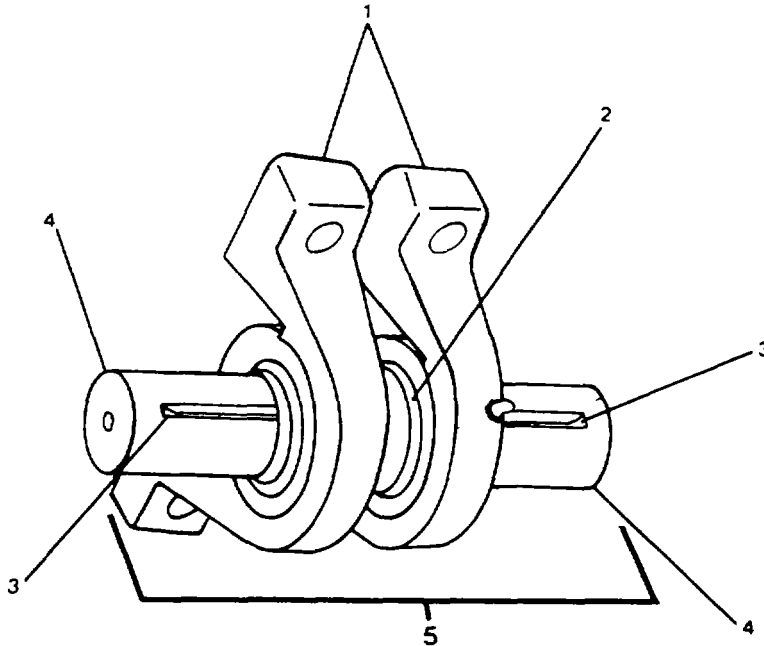

FIGURE 4-21. Bearing Assembly.
DISASSEMBLYa. Bearings. (FIGURE 4-21)
- (1) Position brake bands for brake lining assembly.
- (2) Position brake linings (3) onto each brake band (1) with mounting screw holes aligned.
- (3) Secure each brake lining (3) to brake bands (1) with 25 brass screws (4) and hexagon self-locking nuts (2).
- f. Bearings. (FIGURE 4-21)
- (1) Use gear press to install bearings (2) onto shaft (4).
- (2) Install machine keys (3) to each end of shaft.
- (3) Attach bearing caps (1) to bearings (2) and shaft (4).
- (4) Prepare bearing assembly for installation.